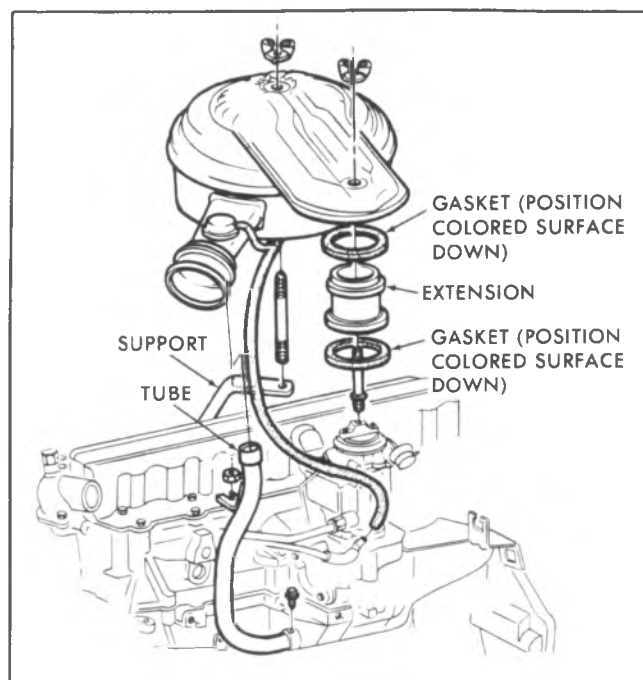

Fig. 6E-28--Air Cleaner-L6-Non-Integrated Head
1. Drill a 7/64" hole in snorkel tube at center of vacuum motor retaining strap (Fig. 6E-35).